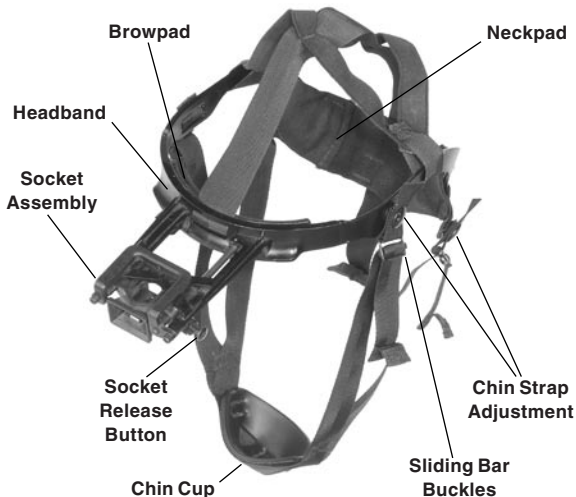

Figure 2-7. PVS-7 Head Mount Adjustments
1. Prior to donning the head mount, loosen the four chin straps so the ends of each strap arc approximately two inches from the sliding bar buckles (See Figure 2-7)
1. Remove the helmet mount assembly from the carrying case. Make sure the helmet mount is complete. Refer to Figure 2-7 for the helmet mount components and features.
6. If the PASGT helmet has its cloth cover and camouflage strap installed, it will be necessary to slide the camouflage strap up (at about a 30°-45° angle) at the front of the helmet (see Figure 2-7).
press to the mount assembly bottom until it locks into place with a click (see Figure 2-7).